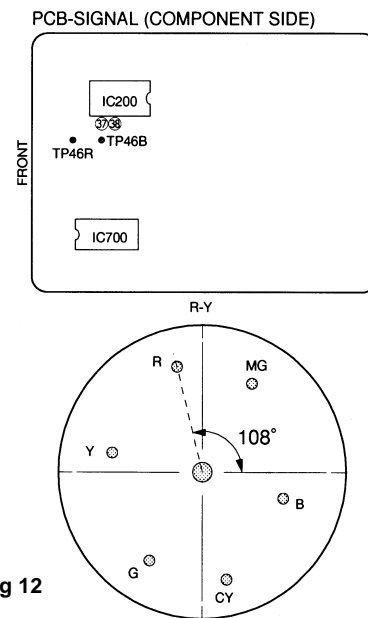

Fig 12
- 10: Terminate the service adjustment mode. ("1" button) See fig 12.